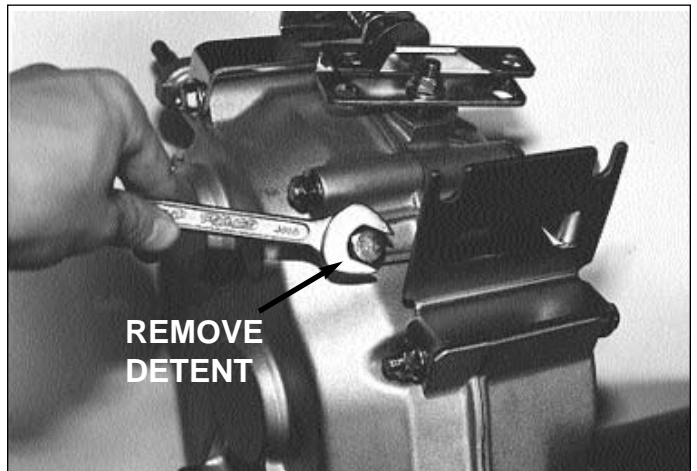

Figure 20 - Shaft Detent Bolt
2. Remove the M10x12 mm bolt over shift detent. Remove the spring and steel ball. Replace gasket if damaged. See Figure 20.